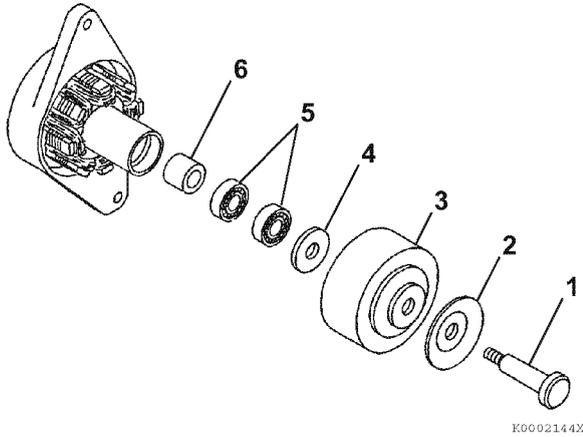

Figure 12-30
3. Reinstall the front bearings (5, **Figure 12-30**) and spacer (6, **Figure 12-30**).
4. Reinstall the flat washer (4, **Figure 12-30**), flywheel (3, **Figure 12-30**), pulley half (2, **Figure 12-30**), and through bolt (1, **Figure 12-30**).